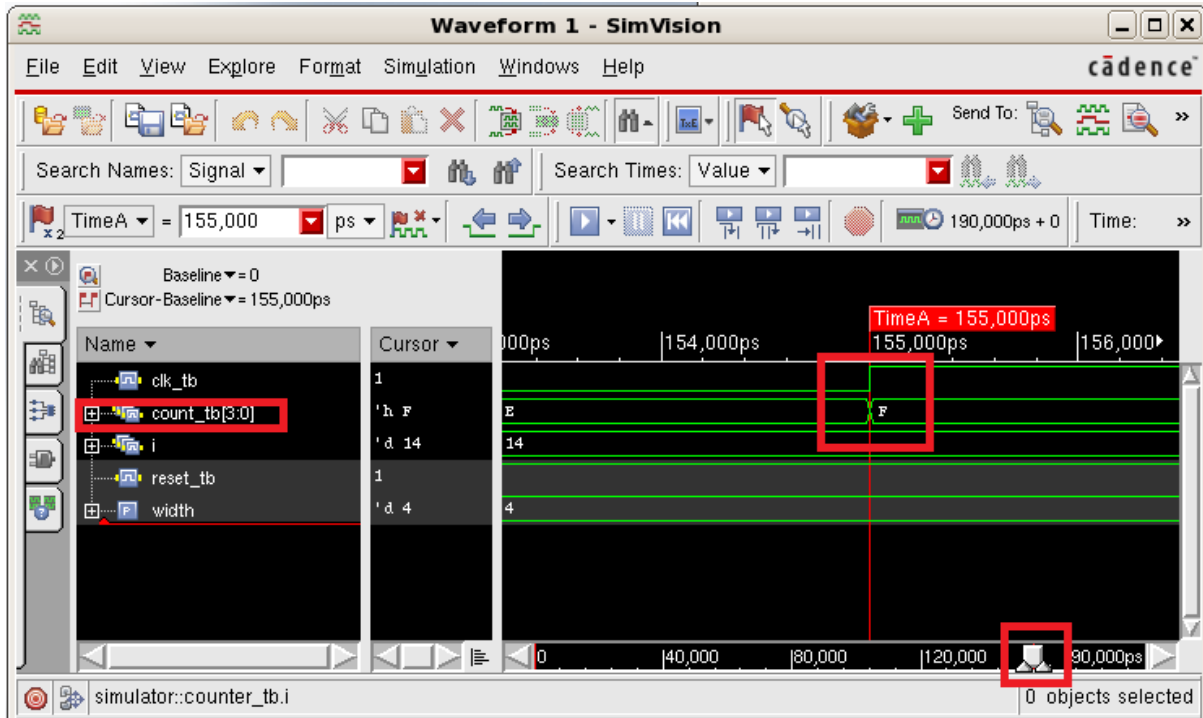

Figure 8 SimVision/Waveform Window
9. Select **count_tb[3:0]** (the output of counter as shown in Figure 8). **Simulation**→**Run**. Then **View**→**Zoom**→**Full X**. Use the **Sliding Bar** and **View**→**Zoom**→**In X** (or **Alt-i**) to zoom in to **count_tb[3:0]=F** as shown. Click on the waveform screen to bring TimerA to clock edge as shown. There is no delay between the positive-edge of **clk_tb** and output of counter since the counter is modeled by verilog behavioral code.